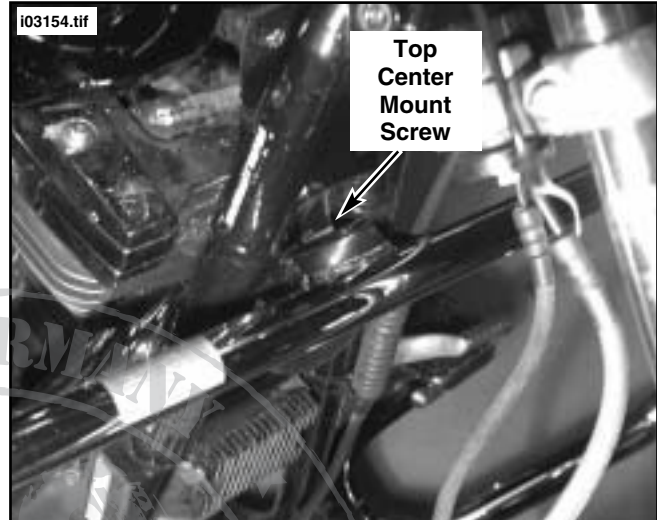

Figure 1. Upper Engine Guard Mount
1. See Figure 1. Lift engine guard into place. Align top center mount of guard with frame crosspiece member between frame downtubes.